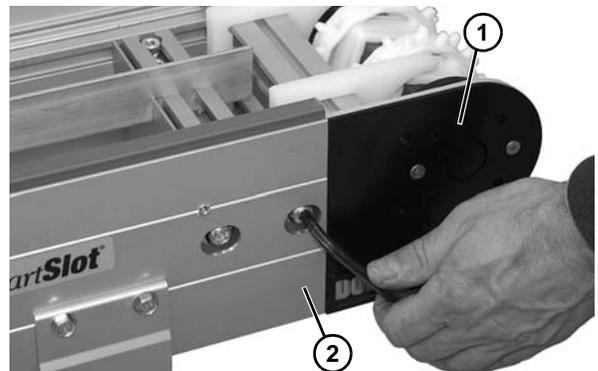

**Figure 59**
- Remove gap filler plates (**Figure 59, item 1**) from crossmember (**Figure 59, item 2**).